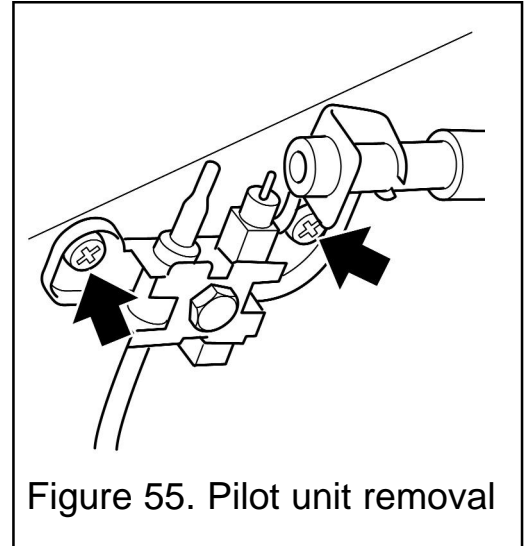

Figure 55. Pilot unit removal
6. Remove the two screws securing the pilot unit (See figure 55).